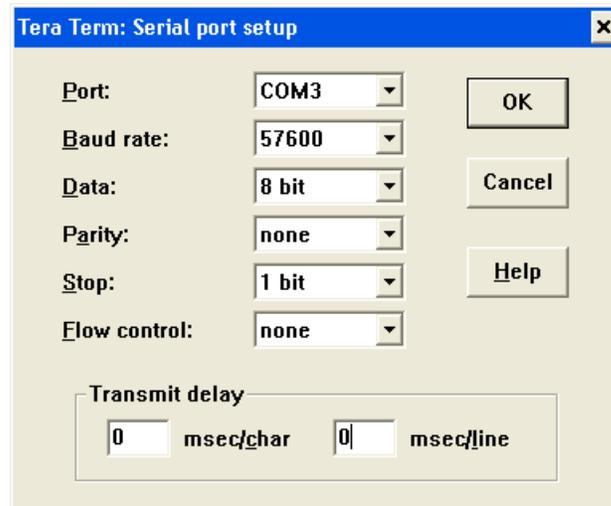

Figure 10: Tera Term Serial Port Setup
4. Select **Setup** > **Serial** port in the Tera Term window. The COM3 Serial port setup window is displayed. Select the following settings (Figure 10):